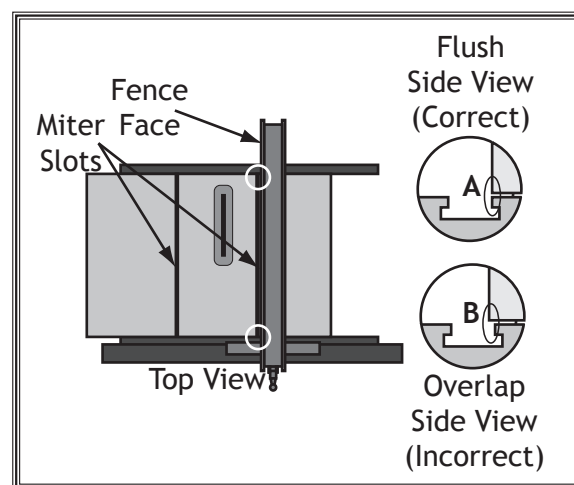

Figure 106. Aligning the fence to the miter slot.
5. Slide the fence up against the right-hand edge of the miter slot, as shown in **Figure 106**, then lock it in place.
- If the fence and miter slot are flush from front to rear, as shown in **Figure 106 (A)**, proceed to **Step 9**.
- If the rear of the fence overlaps the miter slot, as shown in **Figure 106 (B)**, the fence is misaligned. Proceed to **Step 8**.